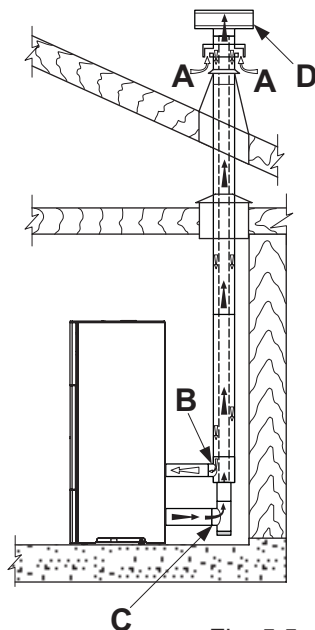

Fig. 5.5
- channel the combustion air using a coaxial exhaust pipe for the expulsion of the flue gases and air withdrawal; therefore it is not necessary to create a classic air intake in the room (fig. 5.5 A,B = Air inlet C,D = Flue gas outlet);
If a pellet stove in the “Hermetic” series is installed, it is possible to use a specific coaxial pipe that allows both the expulsion of flue gases and the ducting of the combustion air from the outside (fig. 5.5 A,B=Air inlet C,D=Flue gas outlet).